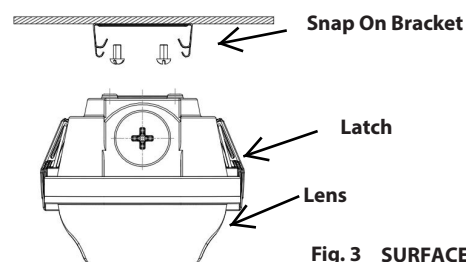

Fig. 3 SURFACE MOUNTING
8. Snap **Housing** on **Snap On Brackets** as shown in **Fig. 3**.
1. Snap **Housing** on **Snap On Brackets** as shown in **Fig. 3**.